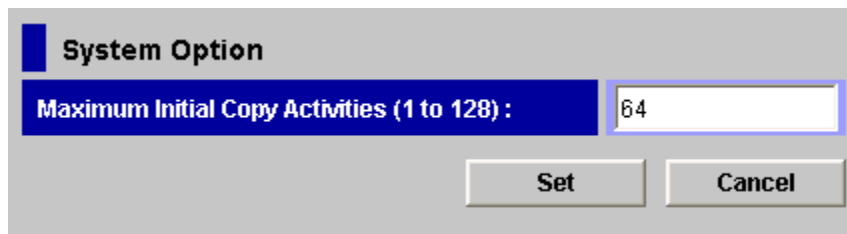

Figure 5-2 System Option Dialog Box
5. In the System Option dialog box (Figure 5-2), change storage system options.